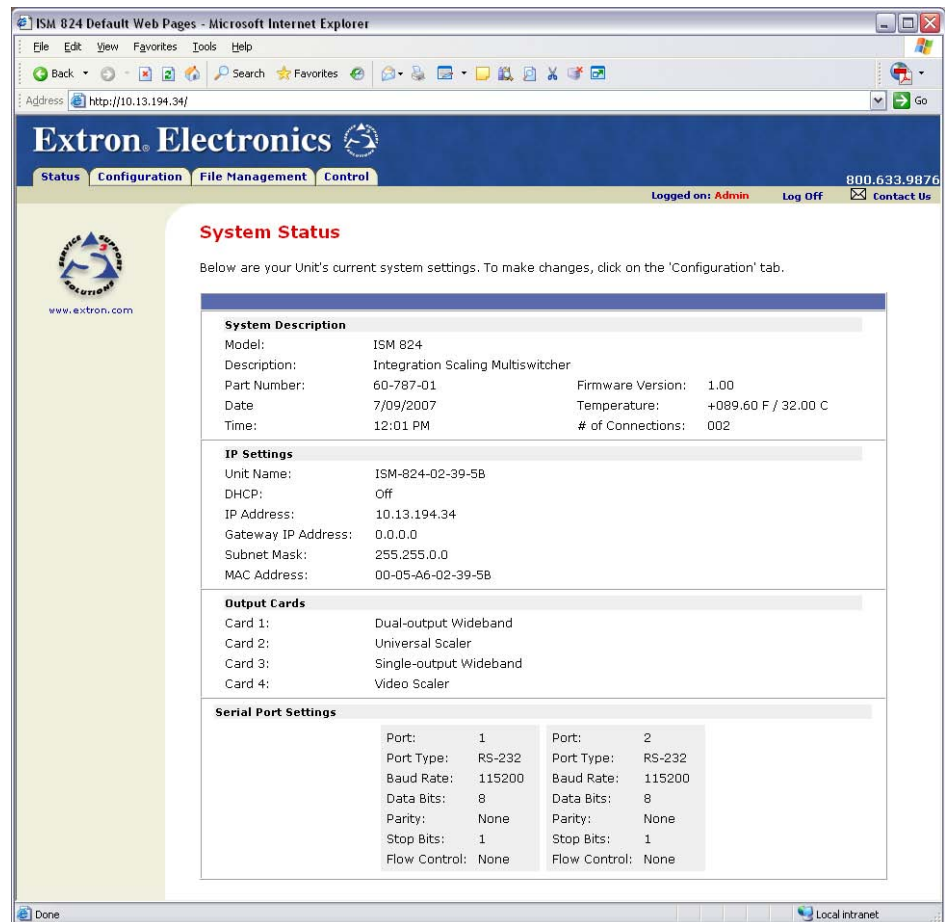

Figure 6-2 — System Status page
- If neither of the above conditions is true, the switcher downloads the factory-installed default startup page, "nortxe_index.html" (figure 6-2), the System Status page.
The System Status page (figure 6-2) provides an overall view of the status of the ISM 824 multiswitcher, including firmware versions, output cards installed, and serial port settings. The System Status page is the default page that the switcher downloads when you connect to the switcher. To access this page while viewing any other page, click the **Status** tab.